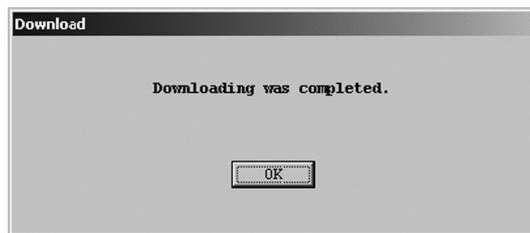

Fig.167
- ⑨ Once the download is complete, a message box (Fig. 167) will be displayed. Click the "OK" button.